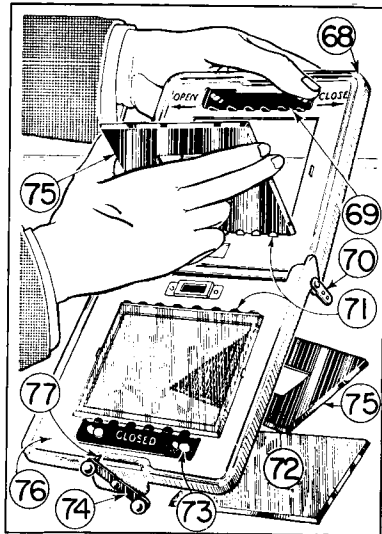

Figure 10
20. Open the negative carrier. The lower section (76) of the carrier has on it the pressure release lever (74). See Figure 10. The carrier must always be inserted between the gate plates (14) with the lower section DOWNWARD.
21. The glass plates (72) in both the upper and lower sections of the negative carrier are held in place by the sliding clamps (69). Pushing the sliding clamp, with your thumb in one direction, loosens the negative pressure plate; pushing in the other direction firmly clamps the plate.